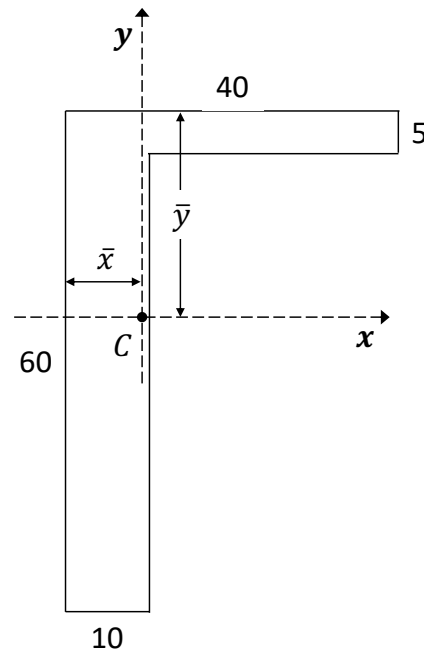

Figure Q10
10. Calculate the position of the centroid, C , for the beam cross-section shown in Figure Q10.